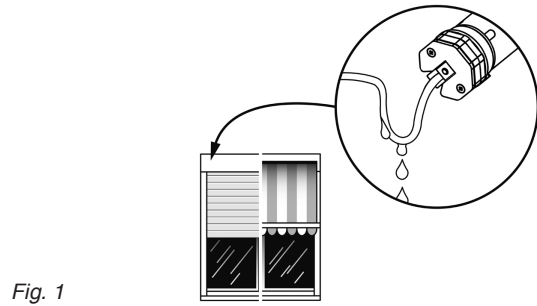

Fig. 1
1. The connection cable should be installed in an conduit to the junction box, in compliance with the local building and electrical regulations. Avoid any contact between moving objects and connection cables by routing the cables according to figure 1.